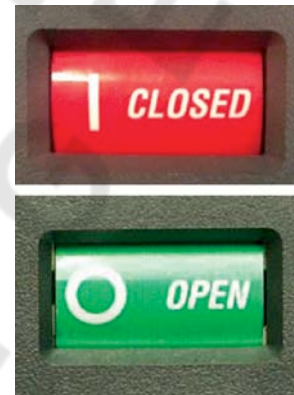

Figure 93. CLOSED and OPEN indicators
2. Press the ON pushbutton to close the breaker manually and verify closing by noting the state of the indicating flag (**Figure 93**).